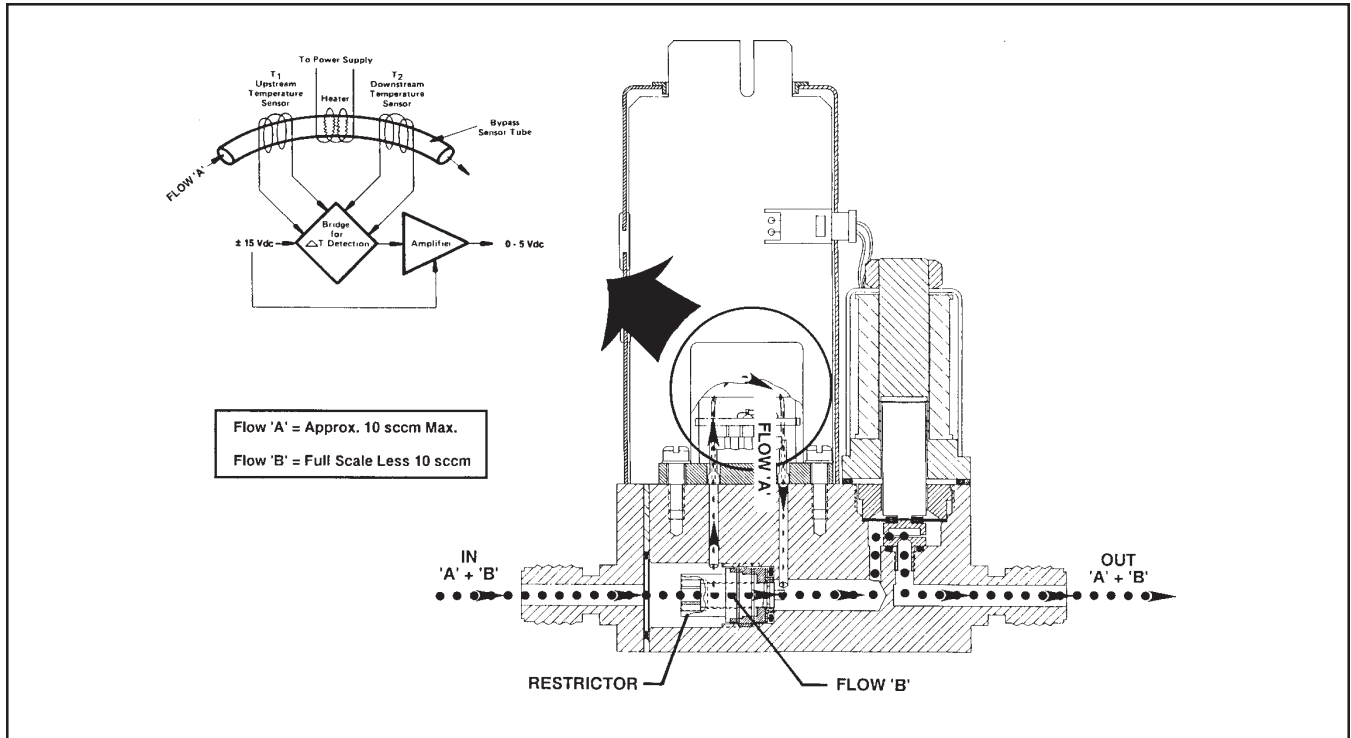

Figure 3-3. Flow Sensor Operational Diagram (VCR™ End Connections Shown)
A precision power supply provides a constant power heat input (P) at the heater which is located at the midpoint of the sensor tube. Refer to Figure 3-3. At zero, or no flow conditions, the heat reaching each temperature sensor is equal. The temperatures T1 and T2, therefore, are equal. When gas flows through the sensor tube, the upstream sensor is cooled and the downstream sensor is heated which produces a temperature difference. The temperature difference T2-T1 is directly proportional to the gas mass flow. The equation is:
The flow restrictor shown in Figure 3-3 performs a ranging function similar to a shunt resistor in an electrical ammeter. The restrictor provides a pressure drop that is linear with flow rate. The sensor tube has the same linear pressure drop/flow relationship. The ratio of the restrictor flow to the sensor tube flow remains constant over the range of the meter. Different restrictors have different pressure drops and produce meters with different full scale flow rates. The span adjustment, in the electronics, affects the fine adjustment of the meter's full scale flow.